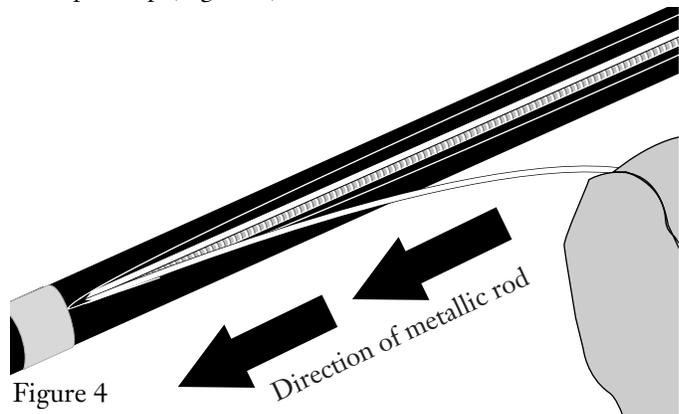

Figure 4
4.4 Pull one metallic rod at a time through the sheath to the tape wrap (Figure 4).